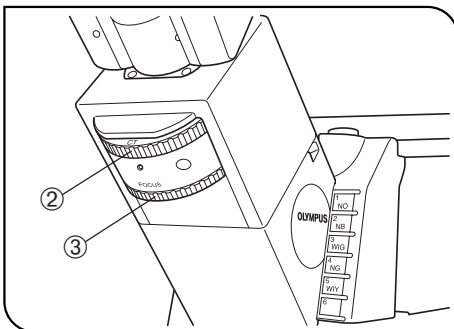

Fig. 66
4. When the U-BI90CT binocular observation tube is used, rotate the CT turret ② to position "CT" to engage the CT lens in the light path. (Fig. 66) When the U-BI90/U-TBI90 binocular observation tube or U-TR30H trinocular observation tube is used, remove an eyepiece and attach the U-CT30 centering telescope.
5. Rotate the focus ring ③ (or, with the centering telescope, rotate the knurled section) to bring the objective's exit pupil into focus. (Fig. 66)